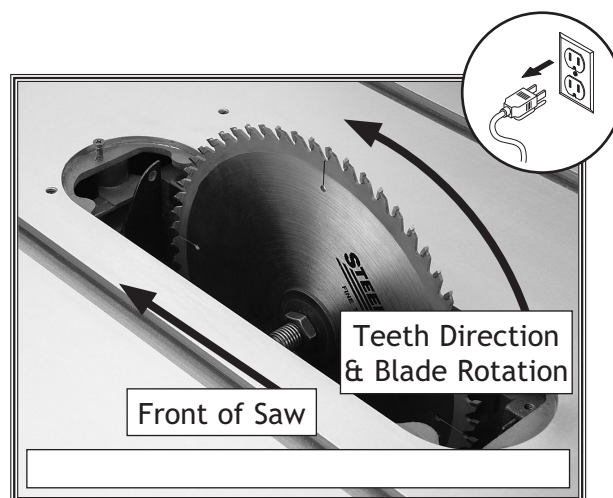

Figure 9. Correct blade direction. (Guard and Insert Removed for Clarity)
2. Slide the blade over the arbor with the teeth facing the front of the saw as shown in **Figure 9**.